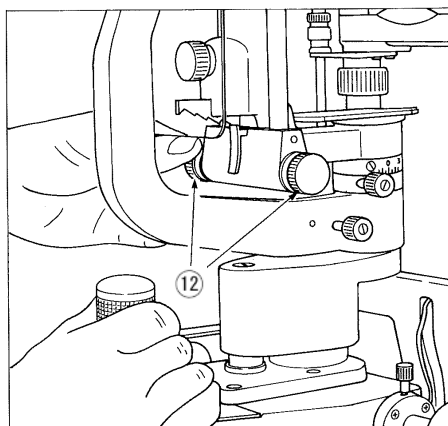

Fig.20: (12) Slit Width Control Knobs
- 1) Rotate either of Slit Width Control Knobs (the control knobs of slit width) to vary the slit width(Fig. 20(12)).